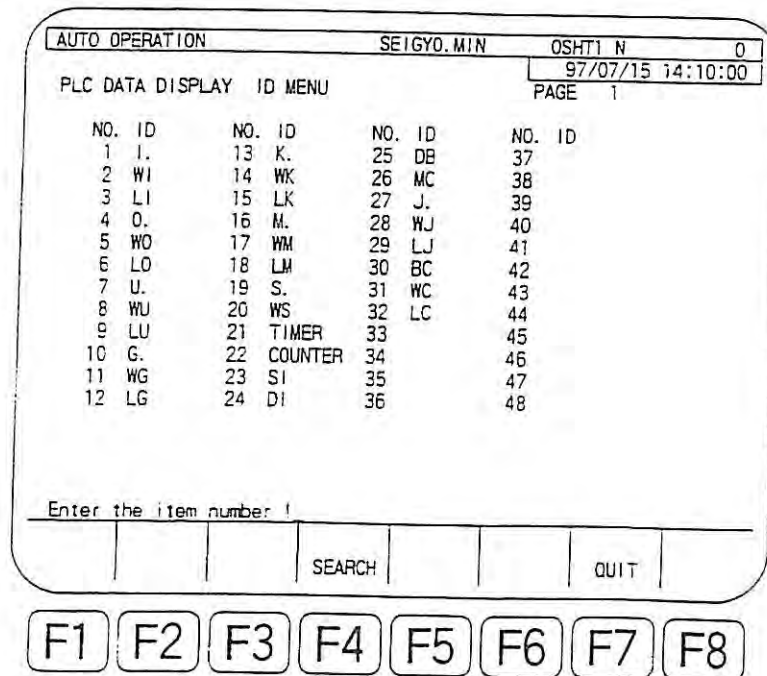

Fig. 6-1 Identifier List Screen
- 3) The list of identifiers is displayed (see Fig. 6-1.)